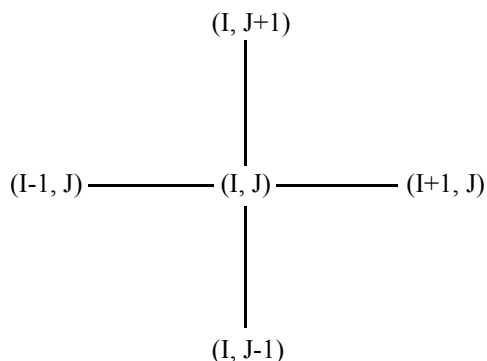

Figure 3-1. IJ-ordered data point neighbors. The layout is identical for JK or IK-ordered data.
The data points for 2D and 3D surface field plots are usually organized in a two-parameter mesh. Each data point is addressable by a set of the two parameters (e.g. I and J for IJ-ordered) and has four neighboring data points (except at the edge of the data). The points are located above, below, to the left, and to the right as shown in Figure 3-1.
A cell is considered a neighbor if one of its faces shares all nodes in common with the selected cell, or if it is identified as a neighbor by face neighbor data in the data set. The face numbers for cells in the various zone types are defined in Figure 3-1.
*Figure 3-1.* **A:** Example of node and face neighbors for an fe-brick cell or IJK-ordered cell. **B:** Example of node and face numbering for an IJ-ordered cell. **C:** example of tetrahedron face neighbors.